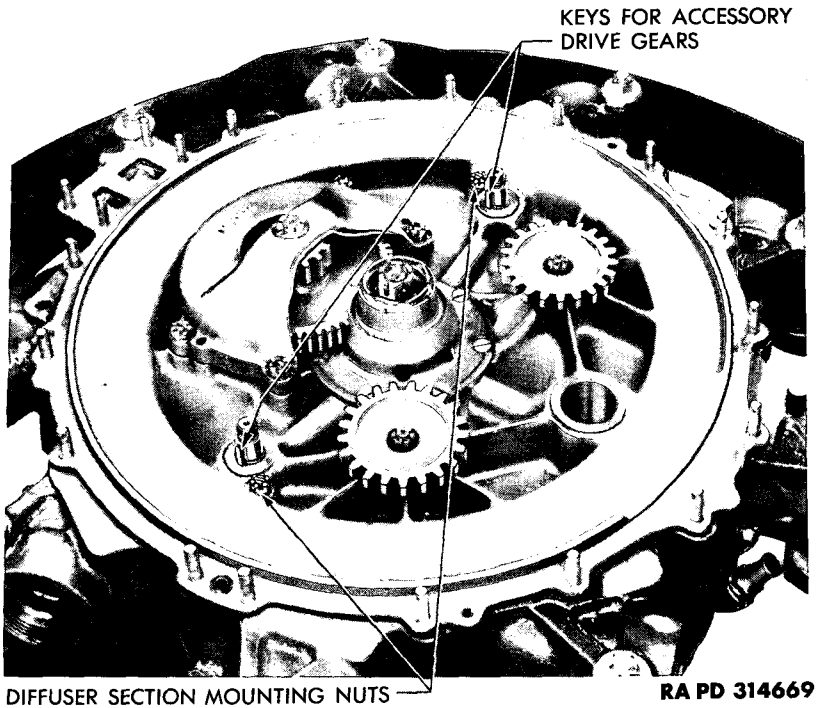

Figure 80 — Diffuser Section Mounting Nuts
c. **Removing Diffuser Section from Rear Crankcase Section.** Remove cotter pins from two nuts by accessory drive gear shaft which hold diffuser section to rear crankcase section (fig. 80). Remove nuts and flat washers. Install three pullers (41-P-2906-280) through tapped holes in diffuser section flanges (fig. 81). Turn pullers, and separate diffuser and rear crankcase sections. Perform this operation